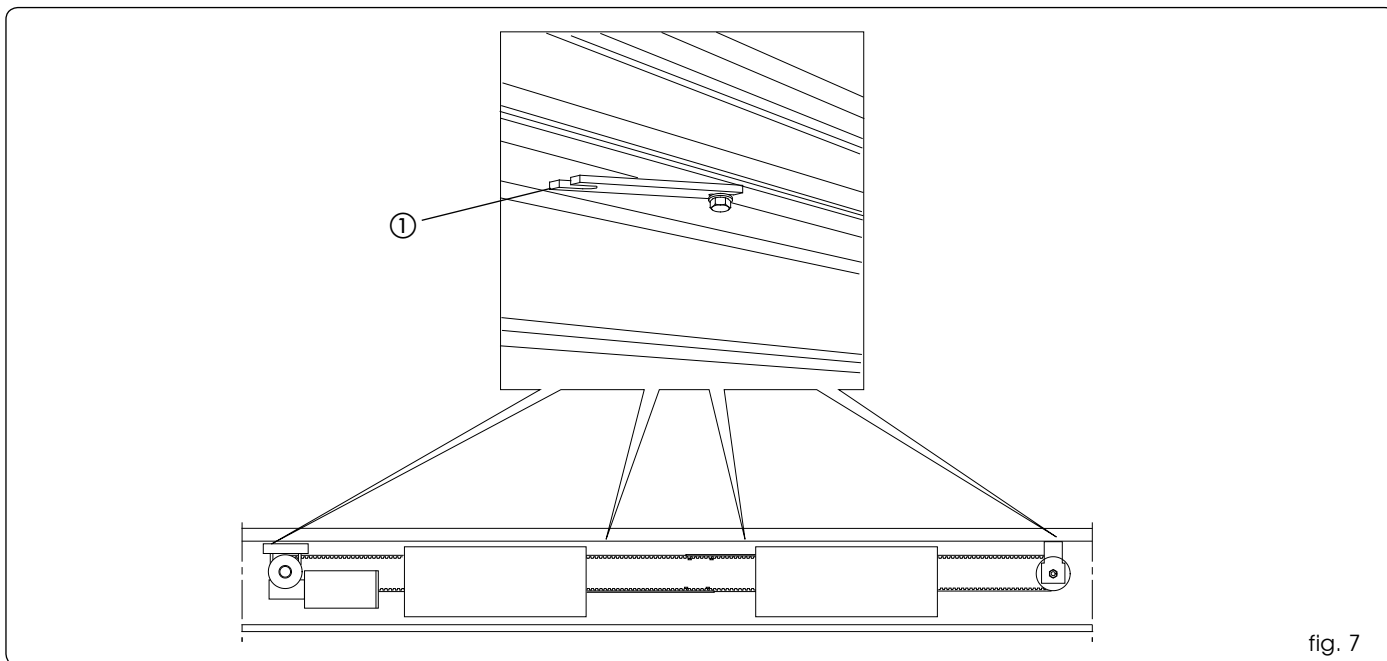

fig. 7
Remove the activation module, loosening the nuts from the securing plates and removing just one nut per plate (fig. 7 ref. ①). Leave the module supporting stay screws in the header profile. Remove the carriages from the support profile.